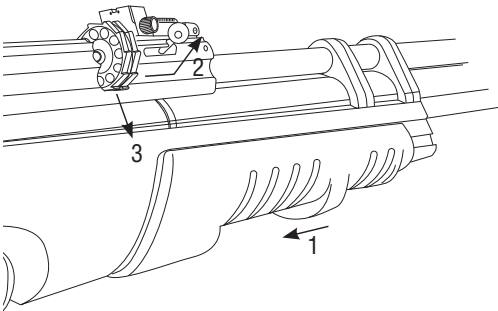

Fig. 7
2. To remove the magazine, pull the forearm slide until it locks and push forward the magazine release bolt and lock it at the forward position. Then remove the magazine by pulling it to the right (Fig. 7). THIS OPERATION COCKS THE TRIGGER MECHANISM/HAMMER ASSEMBLY. IF THE SAFETY IS SET TO OFF POSITION AND THE TRIGGER IS PULLED, THE RIFLE WILL DISCHARGE.